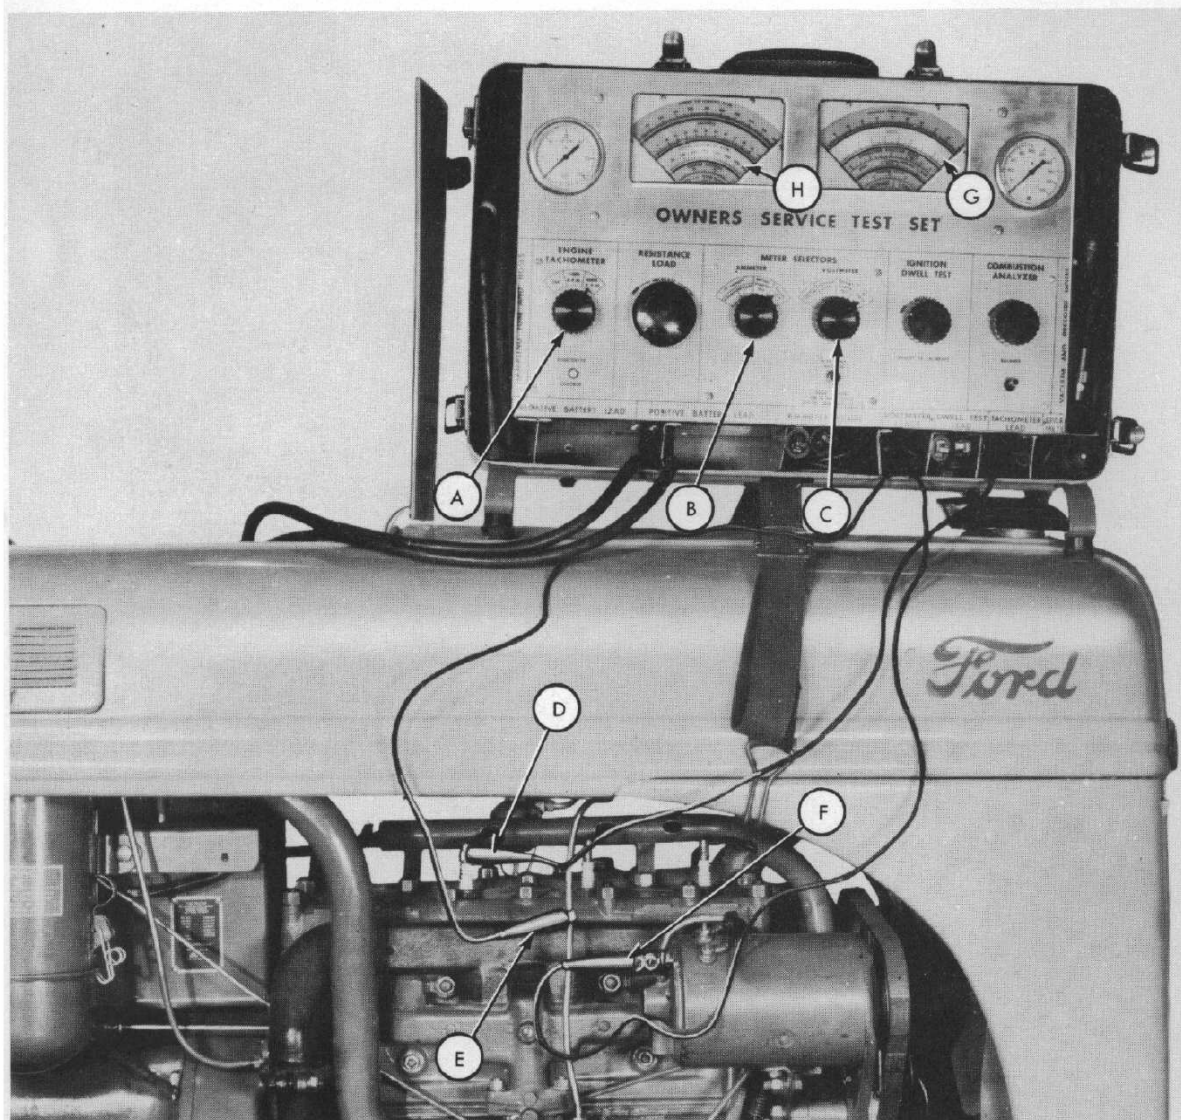

Fig. 6
Step 1—Turn the engine tachometer knob (A- Figure 6) to 4000 RPM.
Step 2—Turn the ammeter knob (B-Figure 6) to **ENGINE TACH.**
Step 3—Turn the voltmeter knob (C-Figure 6) to **9 VOLTS.**
Step 4—Attach the tachometer lead to any spark plug as shown at (D-Figure 6).
Step 5—Attach the voltmeter leads from the test set by clipping the negative (black) lead (F-Figure 6) to the generator armature post and grounding the positive (red) lead (E-Figure 6).
Step 6—Start the engine and speed it up slowly to 1400 RPM and read on scale (H-Figure 6).
Step 7—Read the volts on the voltmeter (G-Figure 6).